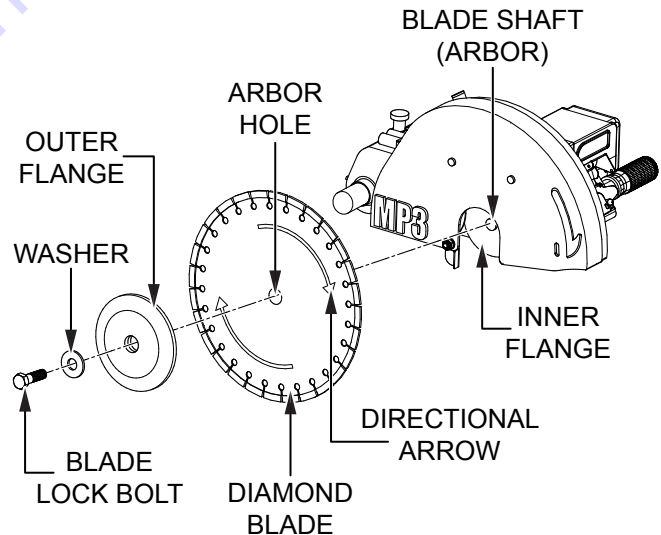

Figure 12. Blade Installation
3. Hold the blade with one hand while loosening the blade lock bolt. Remove the blade lock bolt, blade lock washer, and outer flange (Figure 12). If a blade is already installed, remove it also.
- Place the new blade onto the blade shaft (Figure 12). Make sure the directional arrows on the blade correspond to the rotational direction of the shaft. The diameter of the cutting blade must match the capacity of the blade guard.
- Place the outer flange and blade lock washer onto the blade shaft and secure them with the blade lock bolt (Figure 12). Hold the blade with one hand and tighten the bolt with the universal wrench. Make sure the inner and outer flanges are pressed flush against the blade. Tighten the bolt securely, but **DO NOT** overtighten.